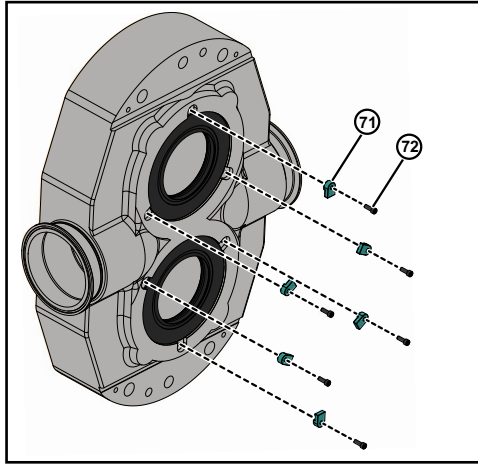

Figure 84 - Remove Screws and Retainer-tab
2. Remove all the retainer-tab bolts (72) and retainer-tabs (71) from the pump body, as shown in Figure 84. This is *applicable for model 180-370*.